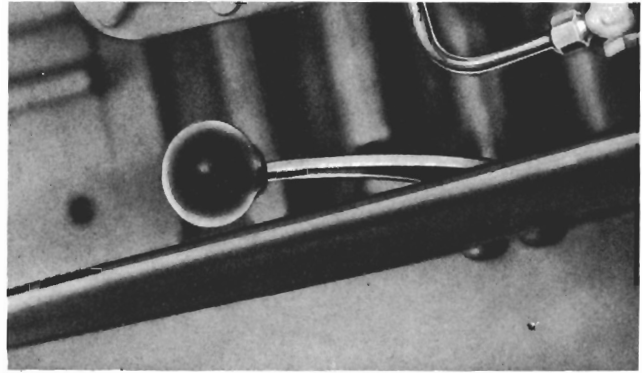

Figure 5—Seat Adjustment Lever
(1) **COCKPIT SEAT.**—The seat may be adjusted for height by lifting the lock release handle on the right side of the seat (figure 5), and raising or lowering the seat as desired. To lock the seat in position, release the locking handle and "jiggle" the seat slightly in a vertical direction until its spring-loaded locking device definitely snaps into position. The seat is equipped with the standard shoulder harness with the spring-release or lock control on the left side.